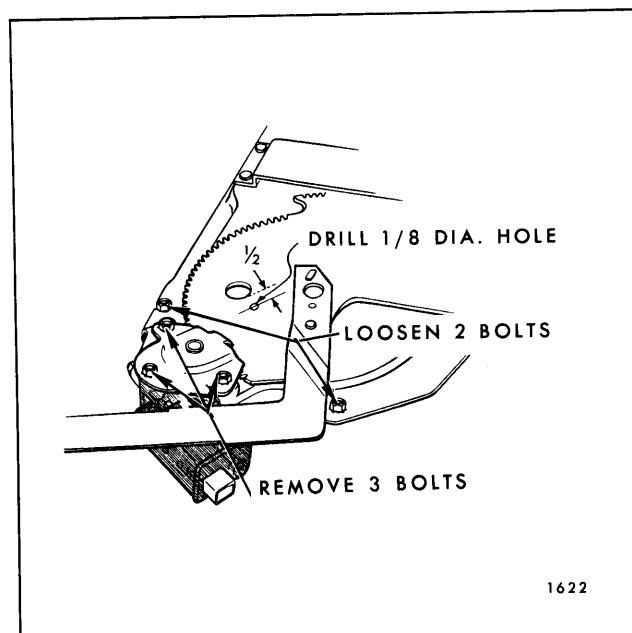

Fig. 9-11—Tail Gate Regulator Motor Assembly
4. Drill a 1/8" hole through regulator sector and back plate (See Fig. 9-11). DO NOT drill hole closer than 1/2" to edge of sector gear of back plate. Install a pan head sheet metal tapping screw (#10-12 x 5/8) in drilled hole to lock sector gears in position.